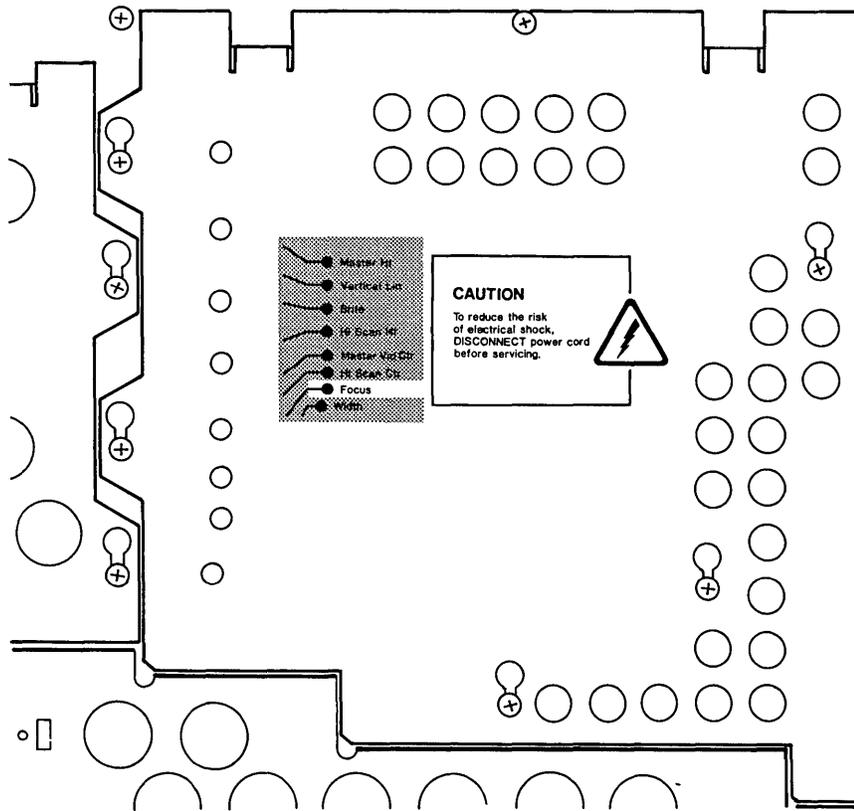

Figure 7-10. VDU Assembly Access Plate - FOCUS Control.
Step 15 - Remove the template from the VDU screen. Enter the “#” character from the keyboard (for best results, the screen should be in high-scan resolution display mode). Using the label on the VDU assembly access plate as a guide (see Figure 7-10) locate and adjust the FOCUS control until most of the characters displayed are clear and sharp (not blurred or “fuzzy”). Alternate between focusing the characters in the corners and those in the middle of the screen and adjust the control for an optimum display.